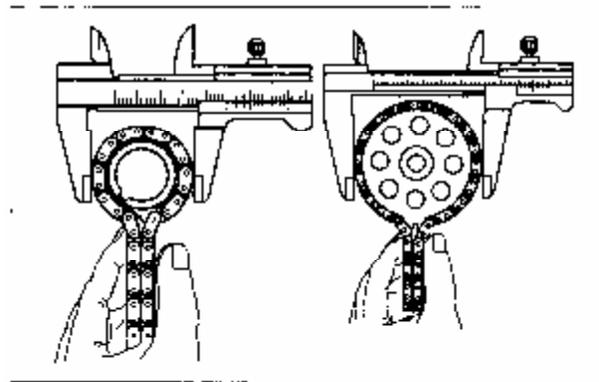

Figure 3-41 Measure Diameters of Crankshaft Timing Sprocket and Camshaft Timing Sprocket (with Chain)
**3.4.6** Using a caliper (Figure 3-41) to measure diameters of crankshaft timing sprocket and camshaft timing sprocket ( with chain). Minimum diameters are: